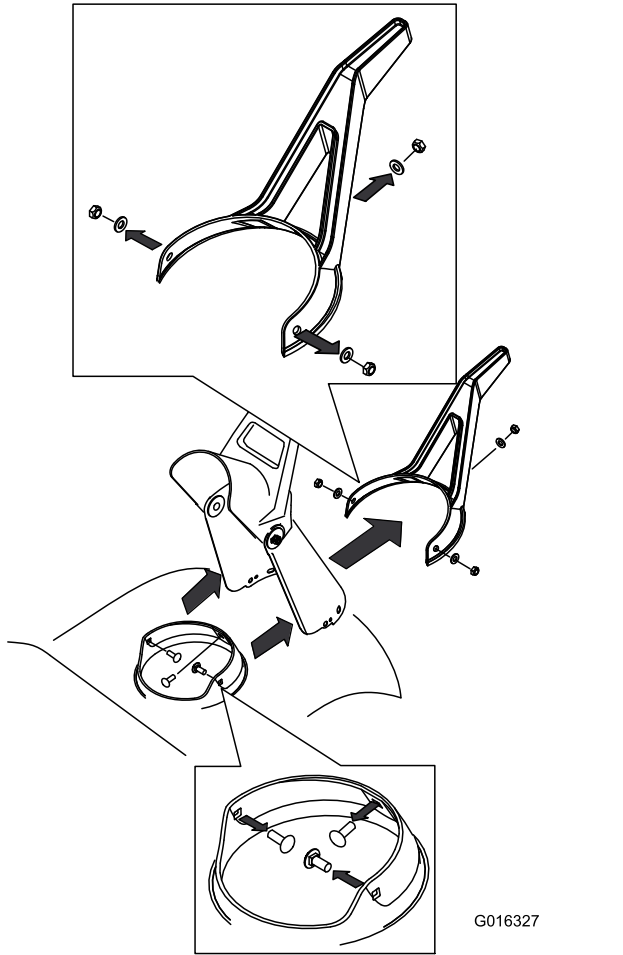

Figure 24
3. Remove the discharge chute by removing the 3 screws holding the chute and the screws holding the chute seal (Figure 24).